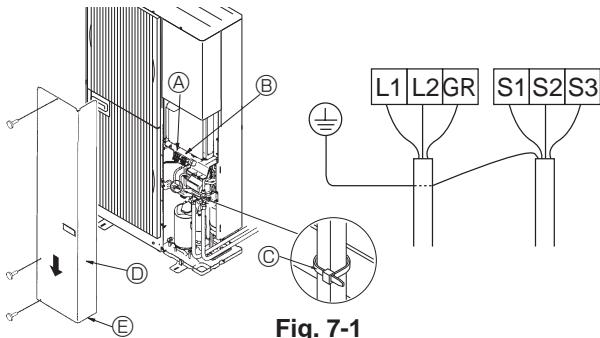
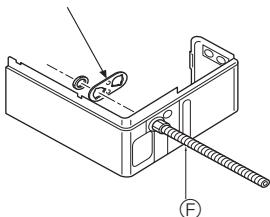

Fig. 7-1
Fig. 7-2
7.1. Outdoor unit (Fig. 7-1) (Fig. 7-2)
- ① Remove the service panel.
- ② Wire the cables referring to the Fig. 7-1.
- ③ Earth terminal
④ Terminal block
⑤ Clamp
⑥ Service panel
⑦ Wire the cables so that they do not contact the center of the service panel or the gas valve.
- ⑧ Conduit mounting plates ($\phi 22$ mm [7/8"]) are being provided. Pass the power supply and signal wires through the appropriate knock-out holes, then remove the knock-out piece from the bottom of the terminal box and connect the wires. (Fig. 7-2)
- ⑨ Fix power source wiring to terminal box by using buffer bushing for tensile force (PG connection or the like).
- ⑩ Wiring conduit (O.D. 1/2", procure locally)